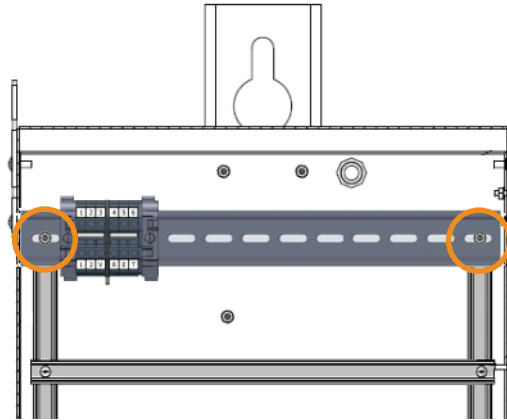

Figure 2 Install 12 V Terminal Block
Step 2. Install the 12 V terminal block subassembly to the top of the accessory mounting kit with two nuts. See *Figure 2*.